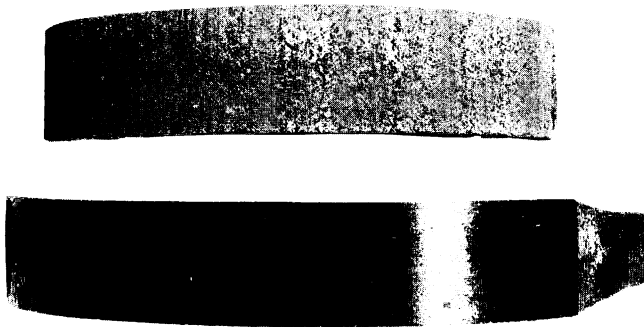

Fig. 6-2 Unglazed lining on top, glazed lining below
**Brake Fade and Glazing.** When brake linings become overheated they lose a lot of their frictional properties. When this occurs, even intense lever pressure will fail to produce a fast, even stop. Overheating also leads to brake linings becoming glazed; this lessens brake effectiveness greatly (Fig. 6-2).